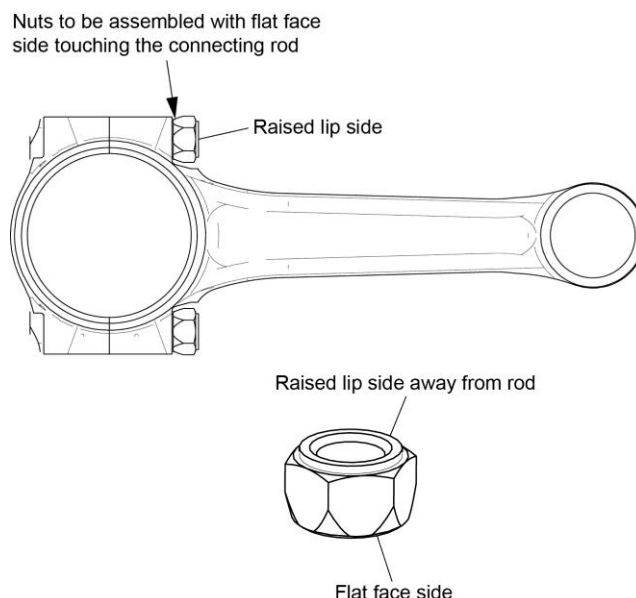

Figure 2
⚠ CAUTION: CORRECT INSTALLATION OF THE NEW NUT ON EACH NEW CONNECTING ROD BOLT IS NECESSARY FOR CORRECT CONNECTING ROD ASSEMBLY. EACH CONNECTING ROD NUT HAS TWO DIFFERENT SURFACES, ONE SURFACE IS FLAT AND THE OTHER HAS A RAISED LIP. BE SURE TO INSTALL EACH NUT ON THE CONNECTING ROD BOLT WITH THE FLAT FACE TOUCHING THE ROD AS SHOWN IN FIGURE 2. THE RAISED LIP SURFACE IS AWAY FROM THE ROD. THE CONNECTING ROD BOLT CANNOT BE TIGHTENED CORRECTLY IF THE NUT ON THE CONNECTING ROD IS INSTALLED INCORRECTLY.
5. Install the nut on the connecting rod bolt where the flat face of the nut touches the connecting rod as shown in Figure 2.